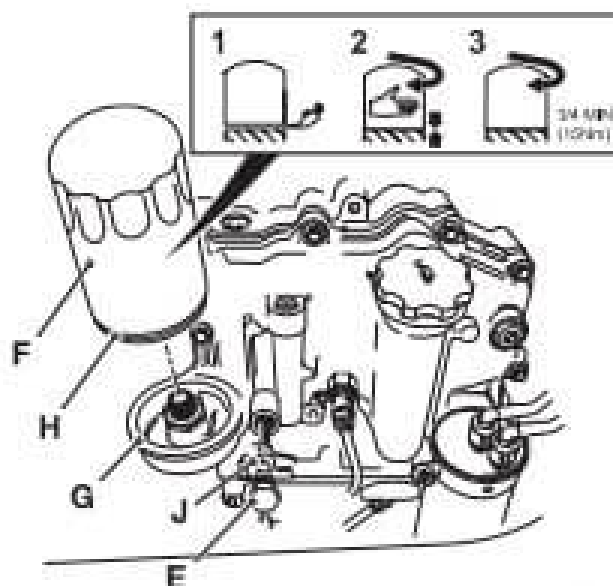

Fig 7.
- 4 Place a container of suitable size under drain plug E to catch the oil. ➔ Fig 7. \(D 3-31\).